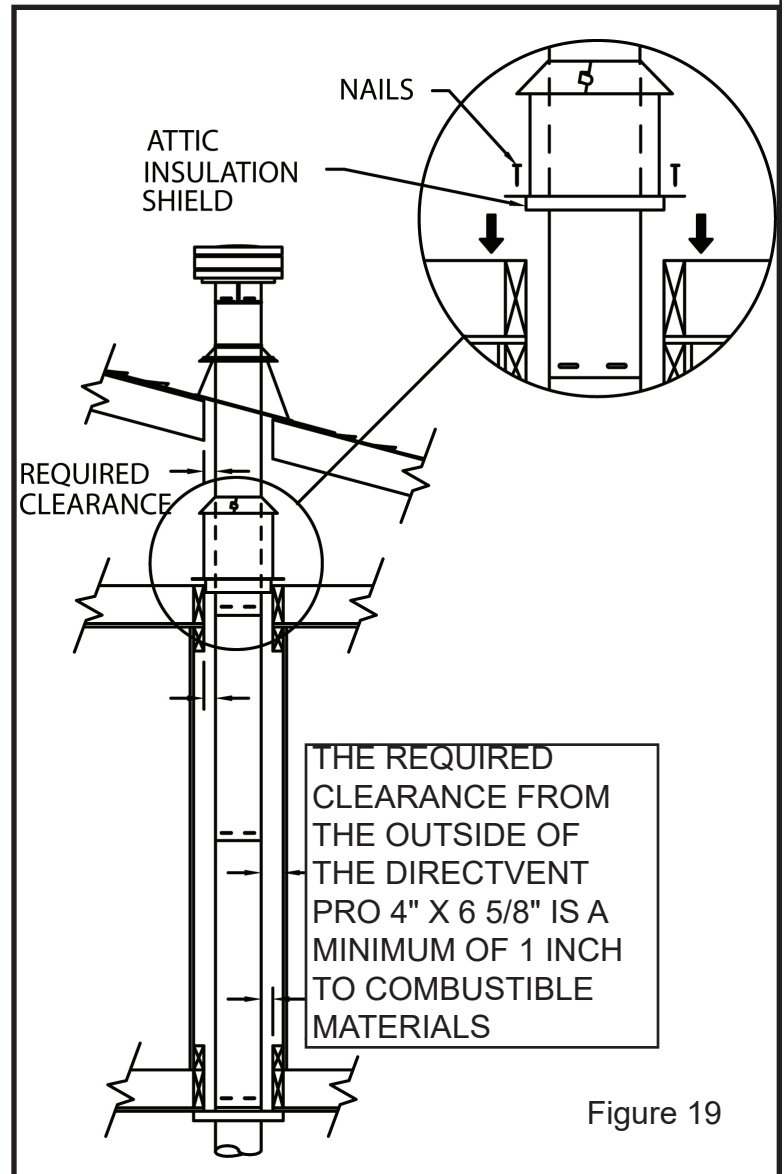

Figure 19
(1) For multi-story vertical installations, a Ceiling Firestop is required at the second floor, and any subsequent floors (Fig. 19). Refer to Table 1, page 8. Cut and frame a square opening for installation of the Ceiling Firestop.
(2) If Vent passes through any occupied areas above the first floor, including closets and storage spaces, it must be enclosed. The enclosure may be framed and sheet rocked with standard construction materials, but required 1" clearance to combustibles must be maintained. Do not fill required air spaces with insulation.
(3) If venting system passes through an attic space the Attic Insulation Shield or a chase enclosure must be installed to prevent contact between Pipe Sections and the insulation or other debris. For the Attic Insulation Shield, nail the base to floor of attic and adjust shield for appropriate insulation level, then attach the collar at the top of assembly (Fig. 19).
Pipe Sections and the insulation or other debris. For the Attic Insulation Shield, nail the base to floor of attic and adjust shield for appropriate insulation level, then attach the collar at the top of assembly (Fig. 19). For a chase enclosure, it may be constructed out of sheetrock or similar building materials and framed around the support box or the pipe, maintaining the 1" clearance to combustibles. For vaulted ceilings a chase enclosure must be constructed as the Attic Insulation Shield can not be installed.
Pipe Sections and the insulation or other debris. For the Attic Insulation Shield, nail the base to floor of attic and adjust shield for appropriate insulation level, then attach the collar at the top of assembly (Fig. 19). For a chase enclosure, it may be constructed out of sheetrock or similar building materials and framed around the support box or the pipe, maintaining the 1" clearance to combustibles as required by the appliance manufacturer. For vaulted ceilings a chase enclosure must be constructed as the Attic Insulation Shield can not be installed.